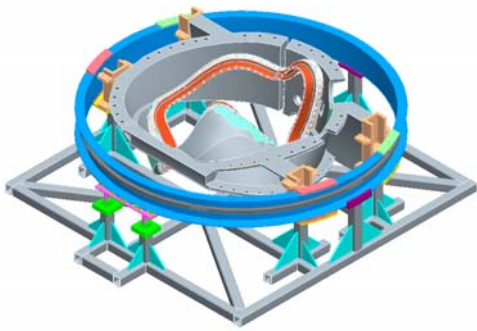

Figure 4- Install Support Ring
- 6.5.3 Position a support ring into the assembly fixture around the casting, and secure the winding form and support ring together with support brackets. Note the orientation of the ring in relation to the lifting beam and pivot locations. (Figure 4- Install Support Ring)